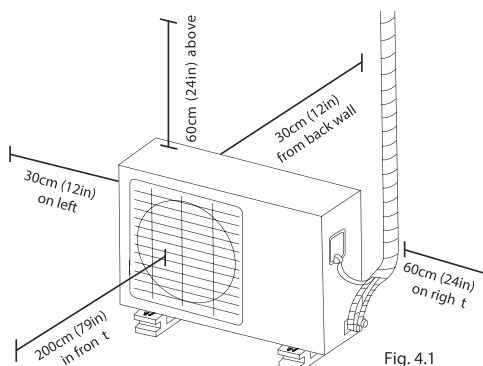

Fig. 4.1
- ✓ Meets all spatial requirements shown in Installation Space Requirements (Fig. 4.1)